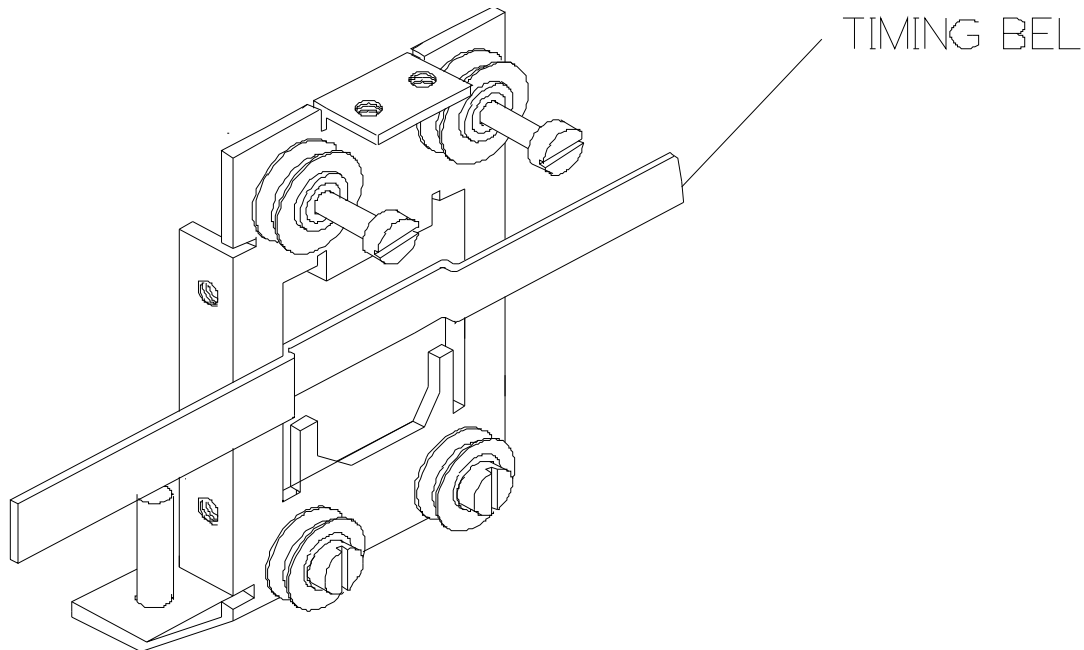

FIGURE 2
Step 1: Attach the belt and clamp to the back of the head using the (2) allen screws (see figure 2).
Step 2: Attach the flex cable to the underside of printed circiut board attached to the head (see figure 2). Make sure the flex cable is oriented correctly.